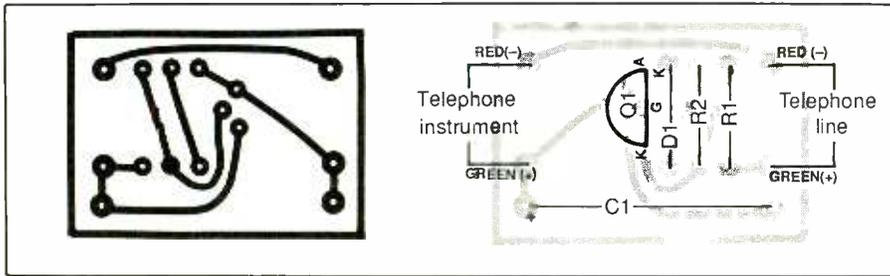

Fig. 4. Actual-size etching-and-drilling guide (A) and wiring diagram (B) for Extension Phone Lockout pc board.
You don't need to dive into heavy mathematics to understand the situation. Figure 4 illustrates how the sines and cosines combine to make
Shown in (A) in Fig. 4 is the actual-size etching-and-drilling guide for the Extension Lockout device's printed-circuit board. When this board is ready to be populated, install and solder into place first the resistors, then the capacitors and zener diode and, finally, the silicon-controlled rectifier. Make sure C1, D1 and SCR1 are properly oriented before soldering their leads to the cop-